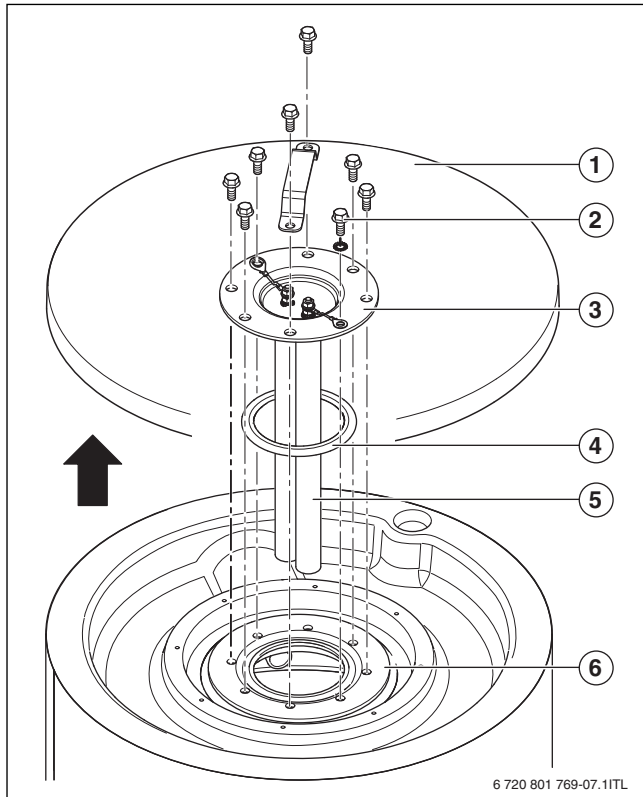
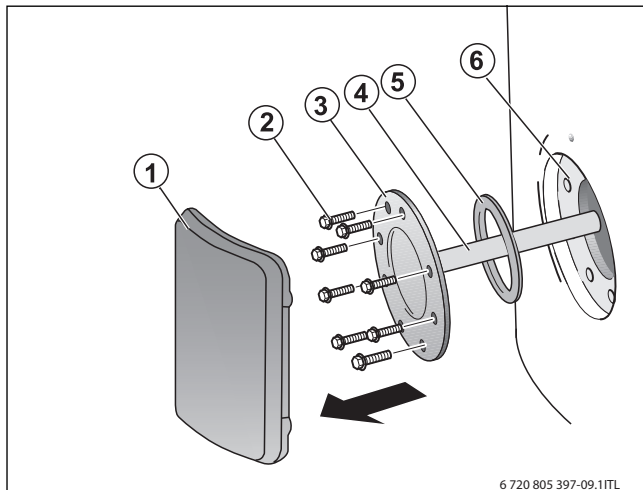

Fig. 17 Removing the cleanout cover SU54/5
Fig. 18 Removing the cleanout cover SU80/5, SU100/5
- ▶ PS jacket cover (SU54/5) (→ Fig. 17, page 14, [1]) or handhole cover (SU80/5, SU100/5) (→ Fig. 18, page 14, [1]) of the DHW tank.
- Remove the cleanout cover (→ Fig. 17, page 14), if not yet removed.